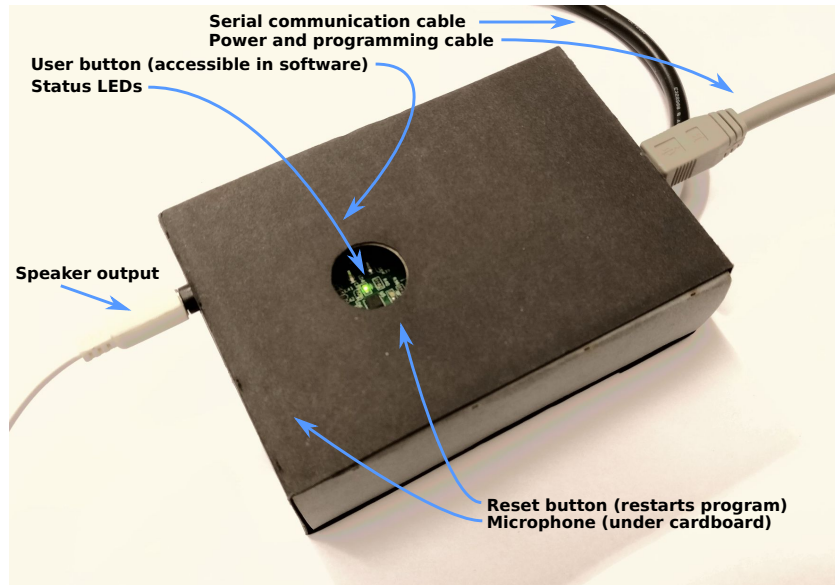

Figure 1: DSP box illustration with input/output, user buttons, and status LED's indicated.
Figure 1 shows the location of all user-accessible input/output on the DSP board. Note that the user and reset buttons are located just outside the circular cutout and are used by lightly pressing on the cardboard case, which is flexible enough to move along with the button.
6. Press the reset button (figure 1). If all is well something like the following text will be displayed in the serial monitor window (you will to have maximized the monitor to see all the output).